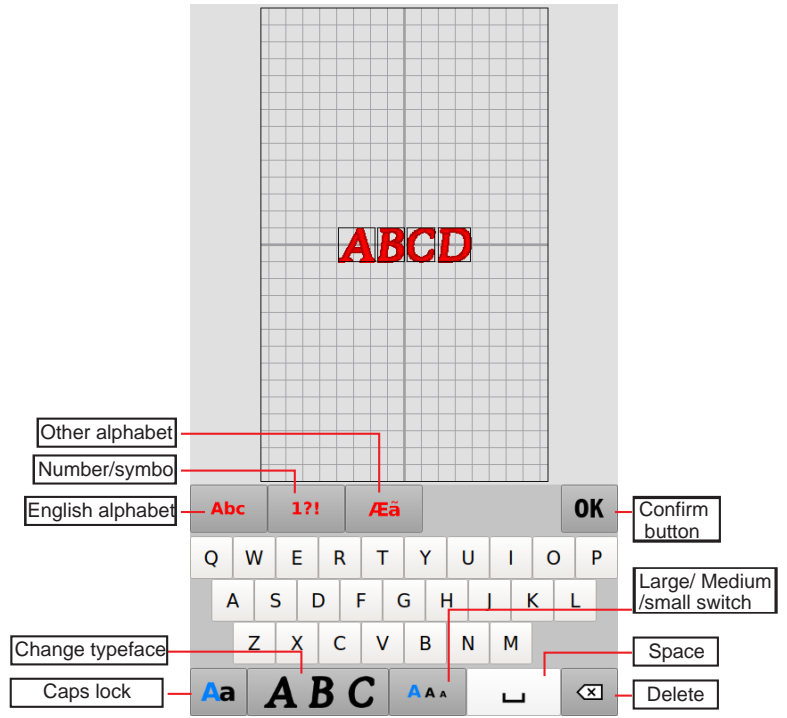

Figure 10
- (2) Click one of the three fonts to enter the interface in FIG. 10. Input letters, numbers, symbols, etc., press Confirm